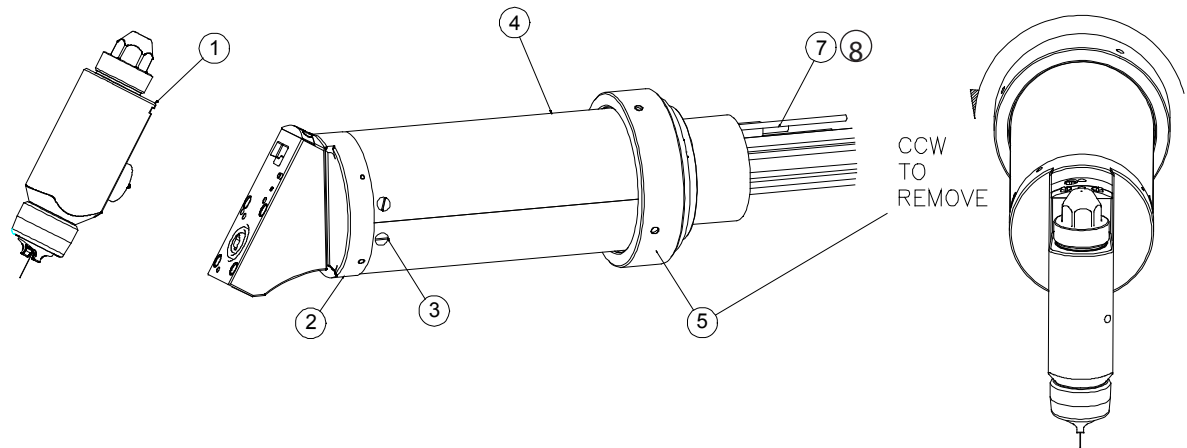

Figure 10: 79190 Evolver Gun Assembly
- > At assembly, apply a small amount of dielectric grease to grooves in spray head and valve manifold to reduce high voltage breakdown. Excessive grease will not allow spray head [2] to seat fully against mounting block assembly [3] (see Figure 10).
REMOVING GUN FROM THE REAR MANIFOLD ASSEMBLY (See Figure 10)
3. Remove gun from robot by turning the retaining ring counter-clockwise from the manifold robot mounting plate (see Figure 10).
4. Remove spray head [1] as described previously (see Figure 10).
79190 EVOLVER GUN ASSEMBLY - PARTS LIST (Figure 10)
2. Loosen retaining ring [5] (see Figure 10) and remove applicator from robot wrist.